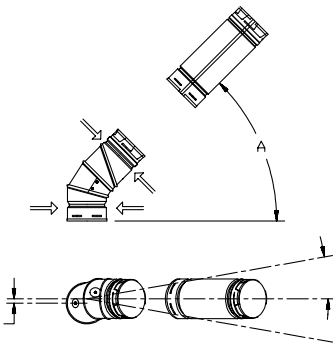

Figure 21
4. 45° Offsets with 90° Elbows. Figure 21 shows a 90° Adjustable Elbow being utilized to accomplish a 45° offset. This Elbow is completely adjustable from 0° to 90°. Please note that the centers of the upper sections tend to displace by a slight amount, as they are rotated. Again, screws (not longer than 1/4") may be used to secure the joint. Wall Straps should also be utilized to enhance the stability of the vent system.